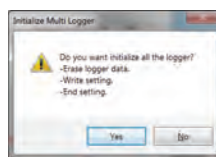

FIGURE 16
- 2.8.4. Click Write To All Device to perform operations specified in 2.8.3. A confirmation window pops up, see Fig. 16. Click Yes to start initialize multiple loggers, or click No to return.